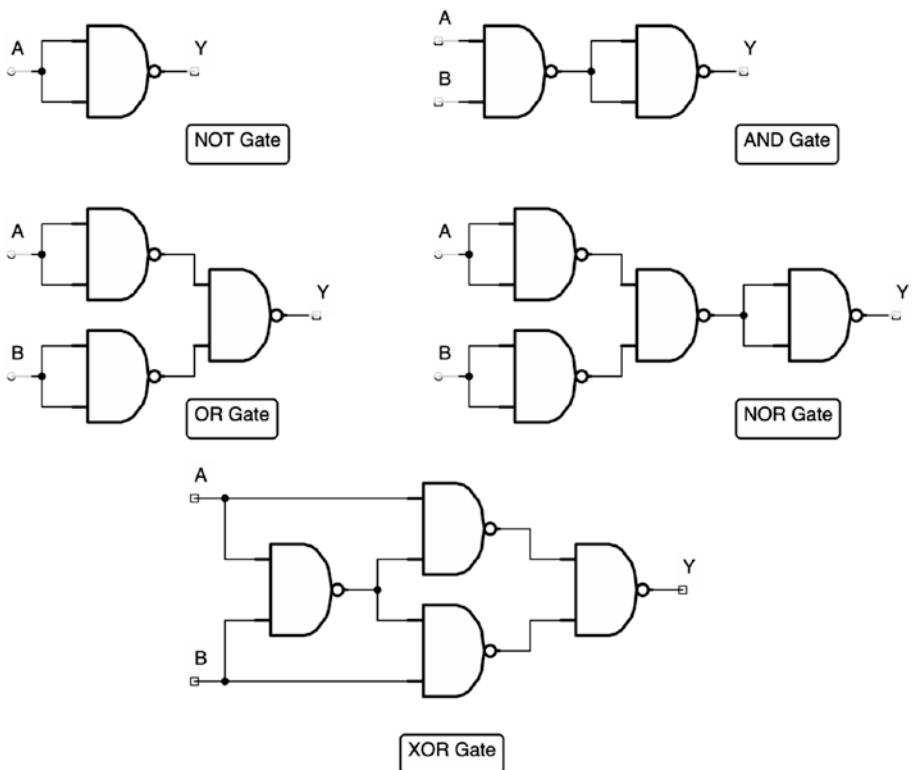

Figure 12-11. How Each Gate Can Be Built from NAND Gates
As an interesting sidenote, every logic function can actually be built from NAND gates, though you have to wire them up in strange ways. You can actually build a computer almost entirely from NAND gates if you wanted to. It is not incredibly important, but Figure 12-11 shows how to build each type of logic gate from NAND gates. As an activity, go through the truth tables in Figure 12-1 and see if you can follow how each set of values becomes the result.
9. Look at the construction of the different gates from NAND gates in Figure 12-11. Copy down the OR gate construction four times, and trace how the output is generated for each possible set of inputs (true/true, true/false, false/true, false/false). Show the inputs and outputs on each NAND gate. Compare the outputs to the truth table for the OR function in Figure 12-1.